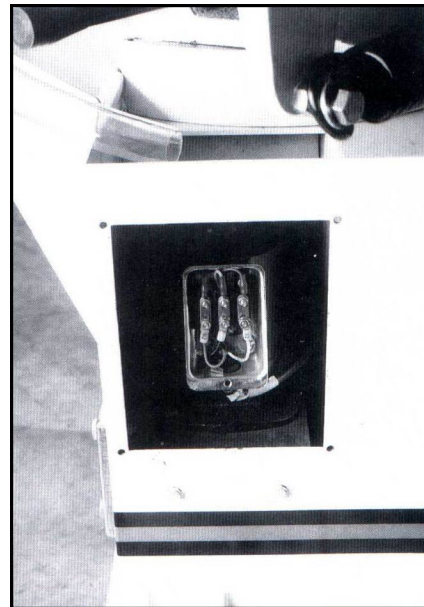

Fig. 1
- **Coolant Pump** – Remove access panel on right side of saw, remove junction box cover on pump, and follow diagram inside junction box cover. See Fig.1